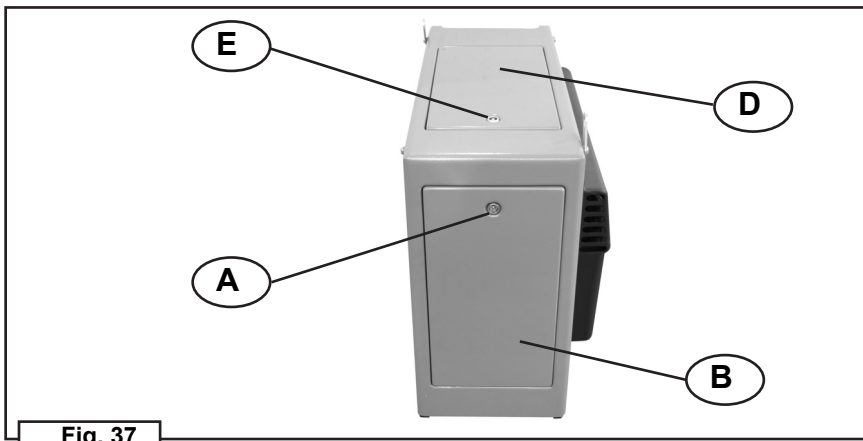
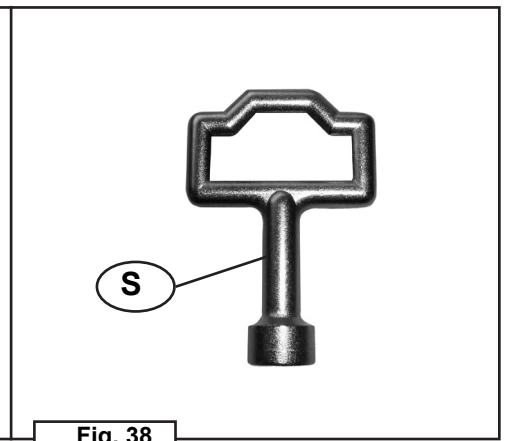

Fig. 37
Fig. 38
3	Loosen the fastening screws (A) using the spanner supplied S (fig. 38) to open the protection case (B) (fig. 37).
30	<p>After completing the maintenance operations, replace the protection case (B) and fasten it with the screw (A) by means of the supplied spanner (fig. 38).</p>